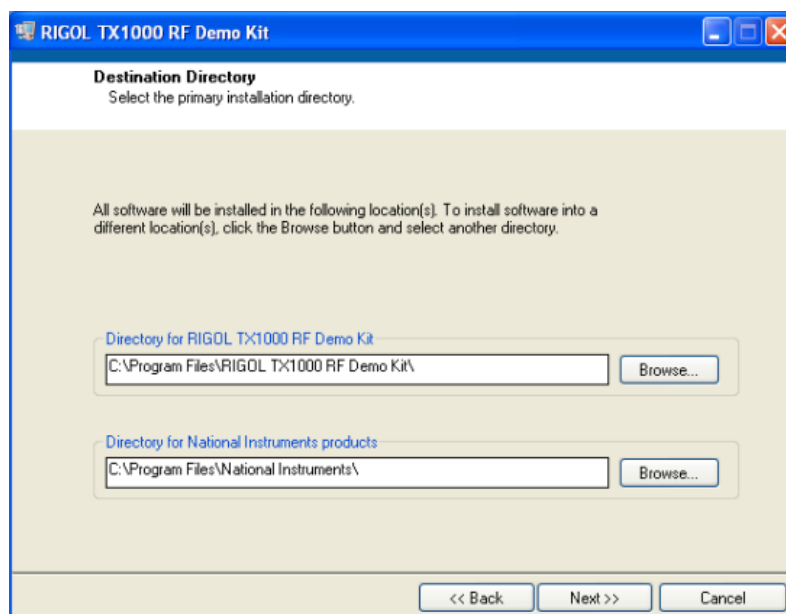

Figure 4 Change the Software Installation Directory
3. After the initialization finished, the interface as shown in figure 4 is displayed and you can click **Browse** to change the software installation directory (or use the default directory). Then click **Next**.